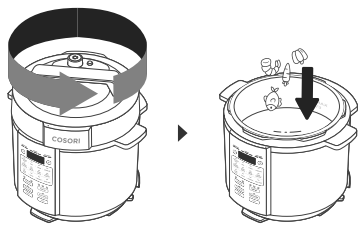

Figure 4.1
1. Twist the lid anticlockwise and lift to remove. Add the ingredients to the inner pot. [Figure 4.1]